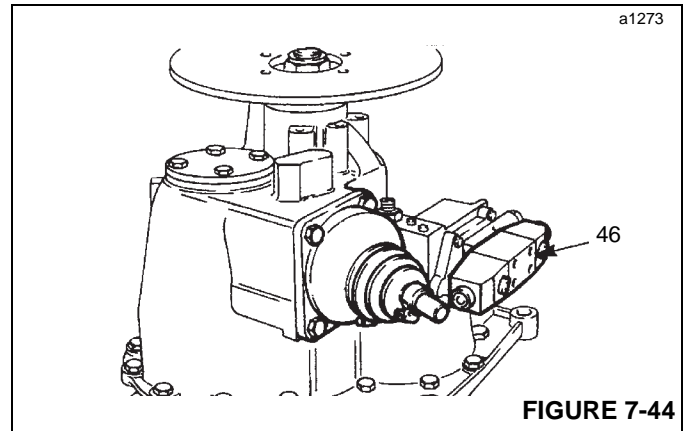

FIGURE 7-44
46. Install new O-rings around ports on mating face of solenoid valve (46, Figure 7-44). Mount the solenoid valve onto the pressure maintenance valve, ensuring that port "P" aligns with metering orifice in the pressure maintenance valve body. Apply Loctite 243 to capscrews and tighten to a torque of 5 Nm (3.7 lb-ft).